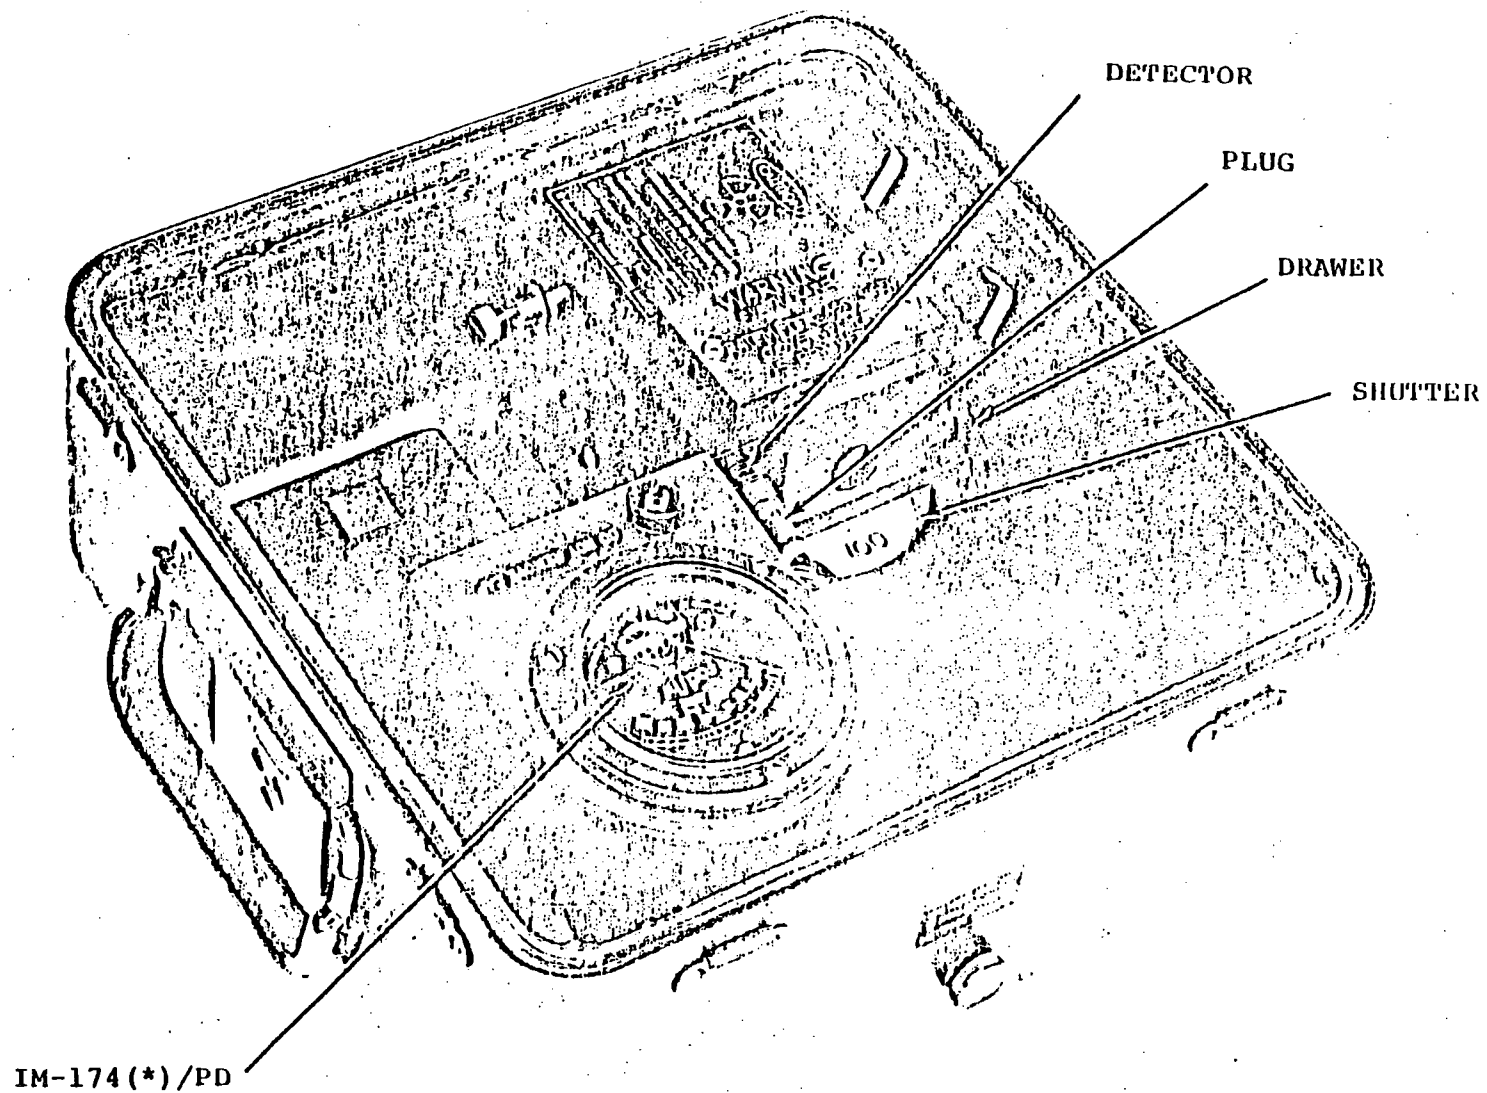

Figure 3-1. Checking Radlucmeter IM-174(\*)/PD
- (4) Carefully lift the IM-174/PD and ionization chamber, and place them inside the ratemeter case with the ionization chamber inside the sliding drawer with the beta window down (fig. 3-1).
(4) On the ratemeter assembly, pull out the sliding drawer, remove and set aside the spacer block.
(5) Carefully lift the IM-174A/PD or IM-174B/PD and ionization chamber, and place them inside the ratemeter case with the ionization chamber inside the sliding drawer with beta window down (fig. 3-1). Make sure the ionization chamber is firmly seated, and then close the sliding drawer.
(6) Recheck the radiacmeter zero adjustment.
(7) Insert the key in the ratemeter assembly lock, unlock the shutter, and rotate it to the 100 position. Make note of the reading on the radiacmeter.
(8) Rotate the shutter to the 10 position, and again make note of the radiacmeter reading.
(9) Compare the two readings taken in (7) and (8) above to the calibration report values, and determine if the readings are within tolerance.
(10) If readings are inside the limits of the calibration report, proceed to (12) below. If readings are outside limits, proceed to (11) below.
(11) When the radiacmeter readings are outside the calibration report limits, the radiacmeters calibration control (under the cap next to the meter face), is adjusted while switching the shutter back and forth between the 10 and 100 positions to bring both readings inside the calibration report limits. If adjustment of the calibration control cannot bring the two readings within the calibration report limits, the radiacmeter is unserviceable.
(12) Rotate the shutter on the ratemeter assembly to the closed position; open the drawer, and remove the ionization chamber. Assemble the radiacmeter.
(13) Replace the spacer block in the sliding drawer, close the sliding drawer, and engage the